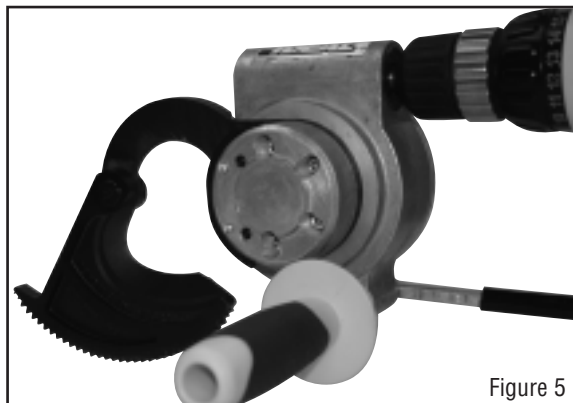

Figure 5
STEP 5: Place the cable to be cut onto the stationary blade and close the moving blade around the cable. Feed the moving blade by hand until the first gear teeth are engaged (Figure 5 and 6).